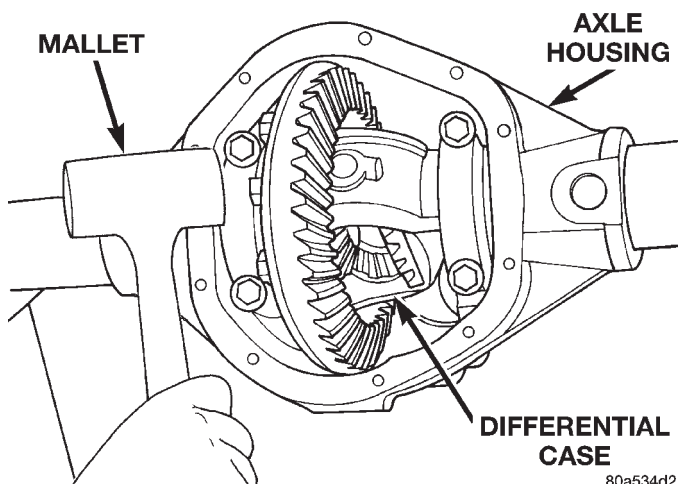
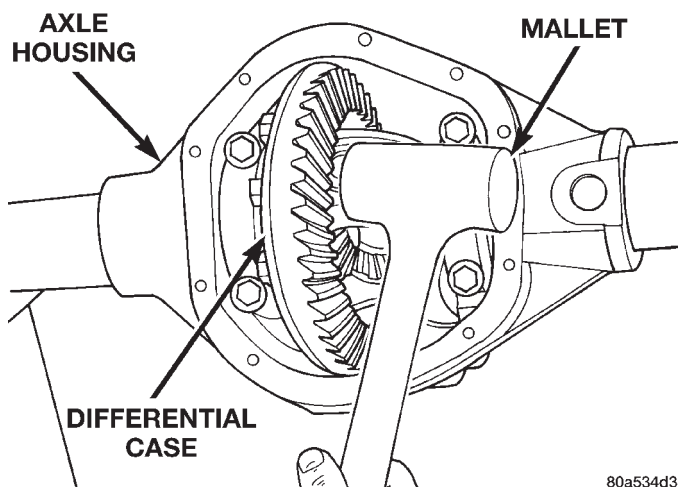

Fig. 73 Seat Pinion Gear Side Differential Dummy Side Bearing
Fig. 74 Seat Ring Gear Side Differential Dummy Side Bearing
- (7) Using a dead-blow type mallet, seat the differential dummy bearings to each side of the axle housing (Fig. 73) and (Fig. 74).
(17) Install the pinion gear in axle housing. Install the pinion yoke, or flange, and establish the correct pinion rotating torque.
(18) Install differential case and dummy bearings D-345 for 216 FBI axles, or D-343 for 248 FBI axles, in axle housing (without shims), install bearing caps and tighten bolts snug.
(19) Seat ring gear side dummy bearing (Fig. 74).